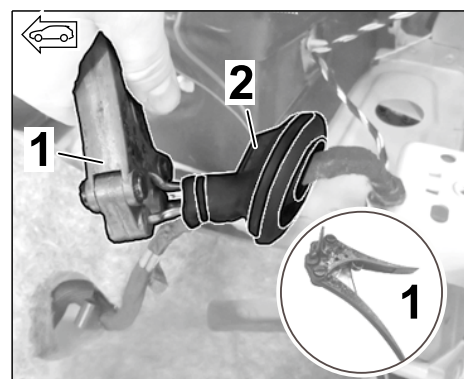

Figure 37
3.3.7 Guide the new branch for the exhaust flap (left/right) through the new grommet (left = Ø 66.5 mm/right = Ø 46 mm ⇒ *Figure 37*) using three mandrel pliers and an auxiliary line (Tekalan or Teflon tube).